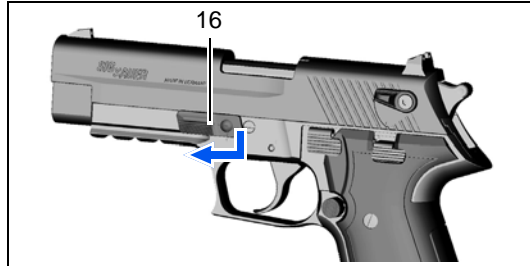

Fig. 14
6. Rotate takedown lever **16** clockwise 180° until it points forward (see Fig. 14).